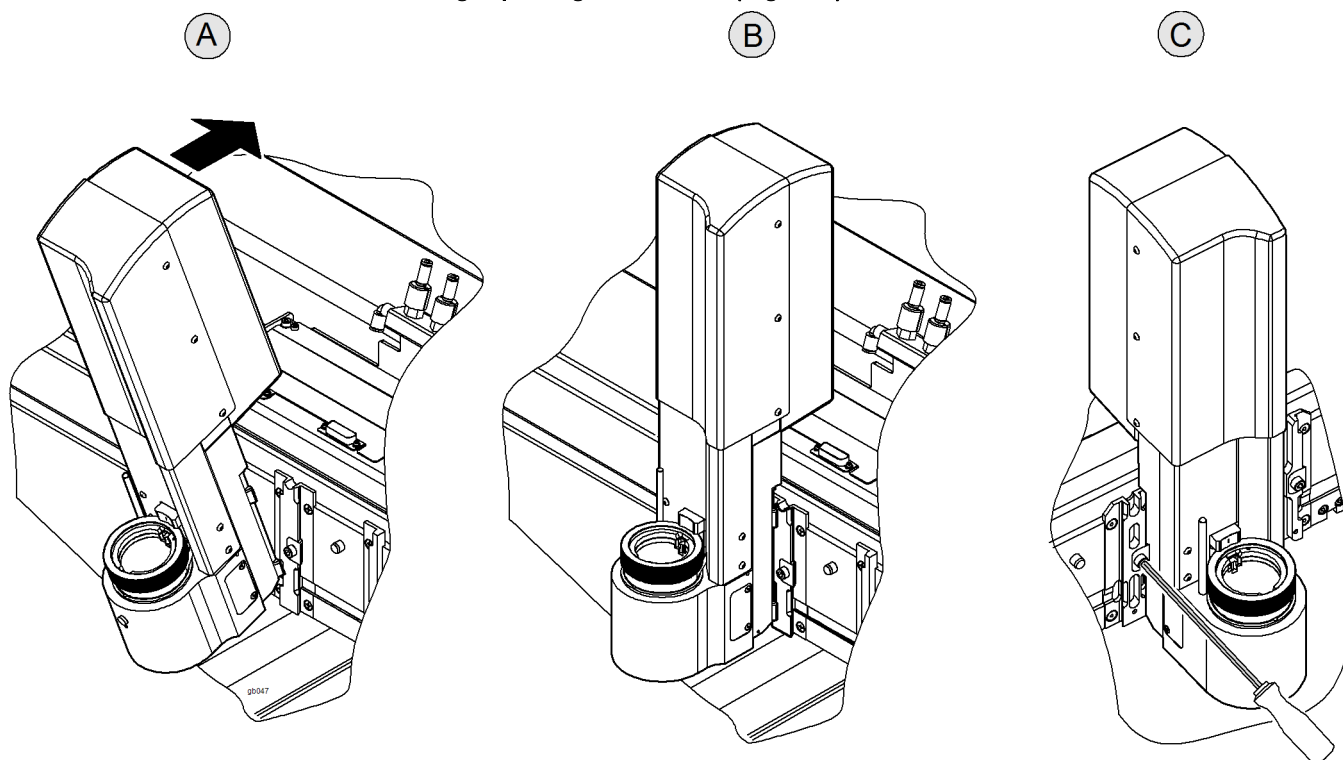

Fig. 4-20 Inserting a module
- ⇒ Position the module on the mounting ledge as shown in Fig. 4-20, step A